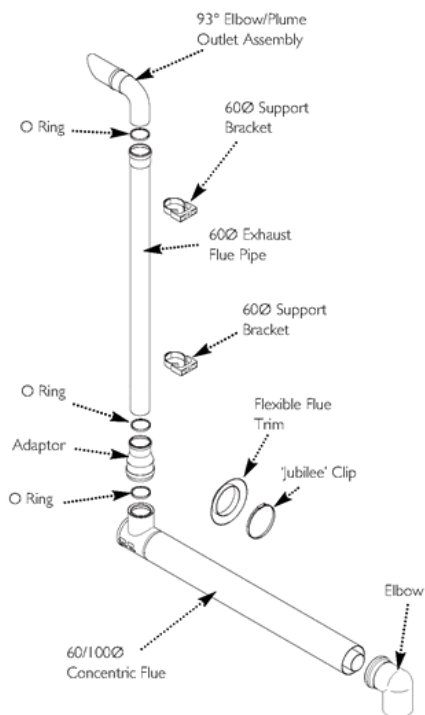

Fig. 21b
8.11 Plume Displacement Kit (Fig. 21b)